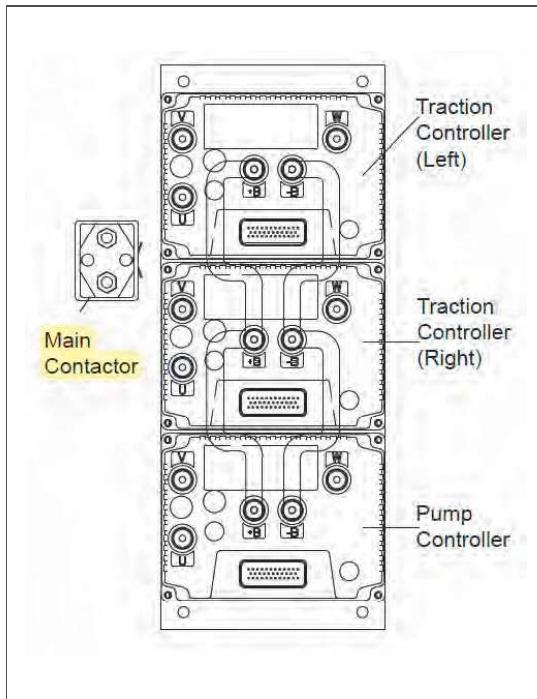

Figure 10-11 Main Contactor
3. Disconnect the cables on the main contactor, Figure 10-11.